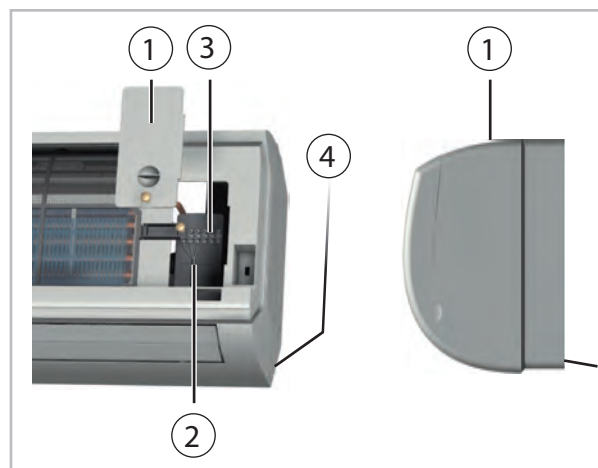

Fig. 18: Connecting the indoor unit
2. ➤ Loosen the covers on the right side using a cross screwdriver. (Fig. 18).